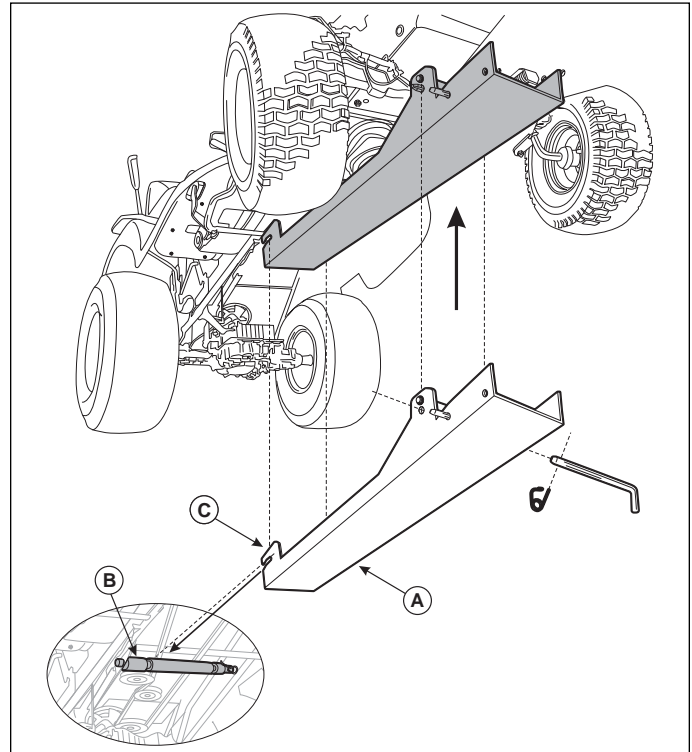

Figure 8. Hitch Installation
- Slide hitch (A, Figure 8) under tractor and lift to slide hitch mounting arms (C) over hitch support shaft (B).